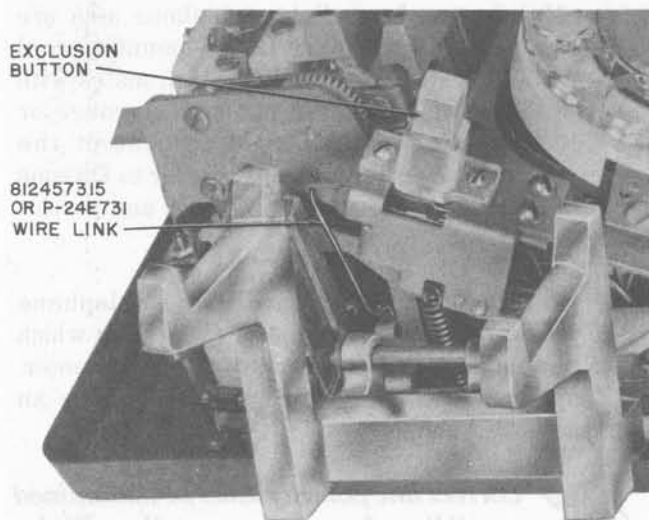

Fig. 1—Exclusion Switch Assembly
- (1) Remove faceplate and housing.
- (2) Connect wire link (Fig. 1) to exclusion switch assembly. The wire link has two 90 degree